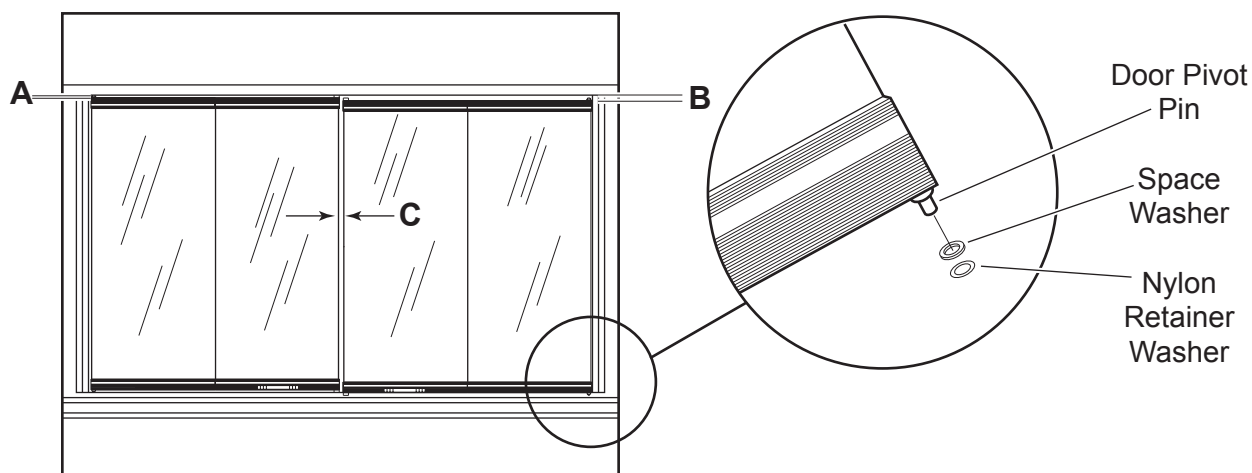

Figure 30 - Inserting Bottom Pivot Pin into Pivot Bushing
1. Insert the door's bottom pivot pin into the appropriate pivot bushing located in the bottom panel of the fireplace. *See Figure 30.*
3. Once the bi-fold doors are installed, check to see if dimensions A and B are equal. *See Figure 30.* If dimensions A and B are within $\frac{1}{16}$ " of being equal, you may only need to adjust the spring clips to make dimensions A and B equal. If dimensions A and B are more than $\frac{1}{16}$ " apart, place one or two spacer washers under a door's pivot pin. *See Figure 30* Use a nylon retainer washer to hold the spacer washers on the pivot pin as shown.